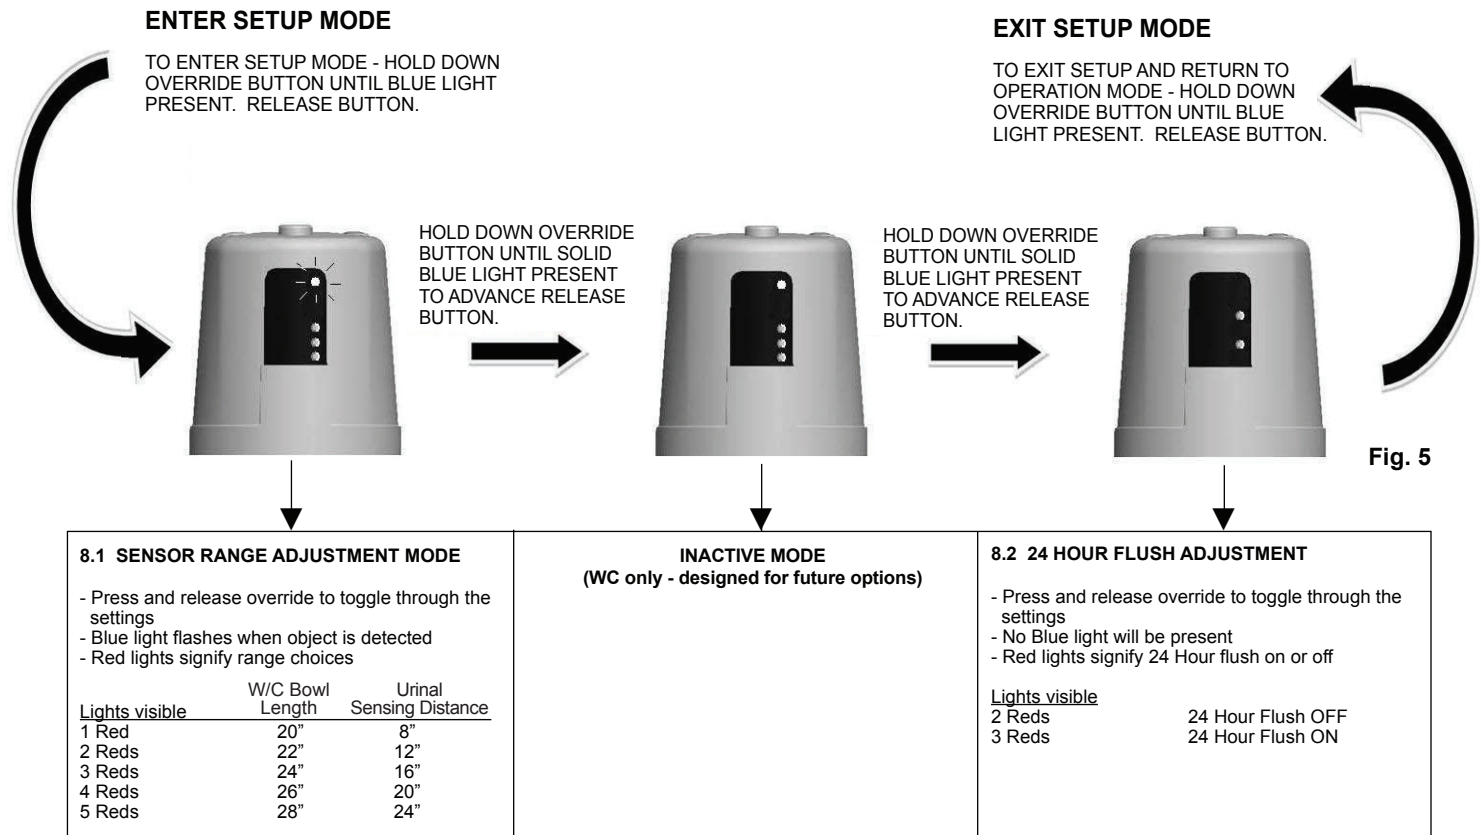

Fig. 5
- While in Set-Up Mode, the user will move through the different adjustment modes one by one, in the order as described above. Use the override button to toggle through the different settings of the adjustment feature being altered. To advance to the next adjustment mode, hold down override button until blue light is present, then release the button. See Figure 5.
- Configure the sensing ranges by selecting the appropriate bowl length. Refer to Figure 5 for the different bowl length settings.
- Each press and release of the override button advances to the next length/distance. (See Figure 5 for a list of distances.)